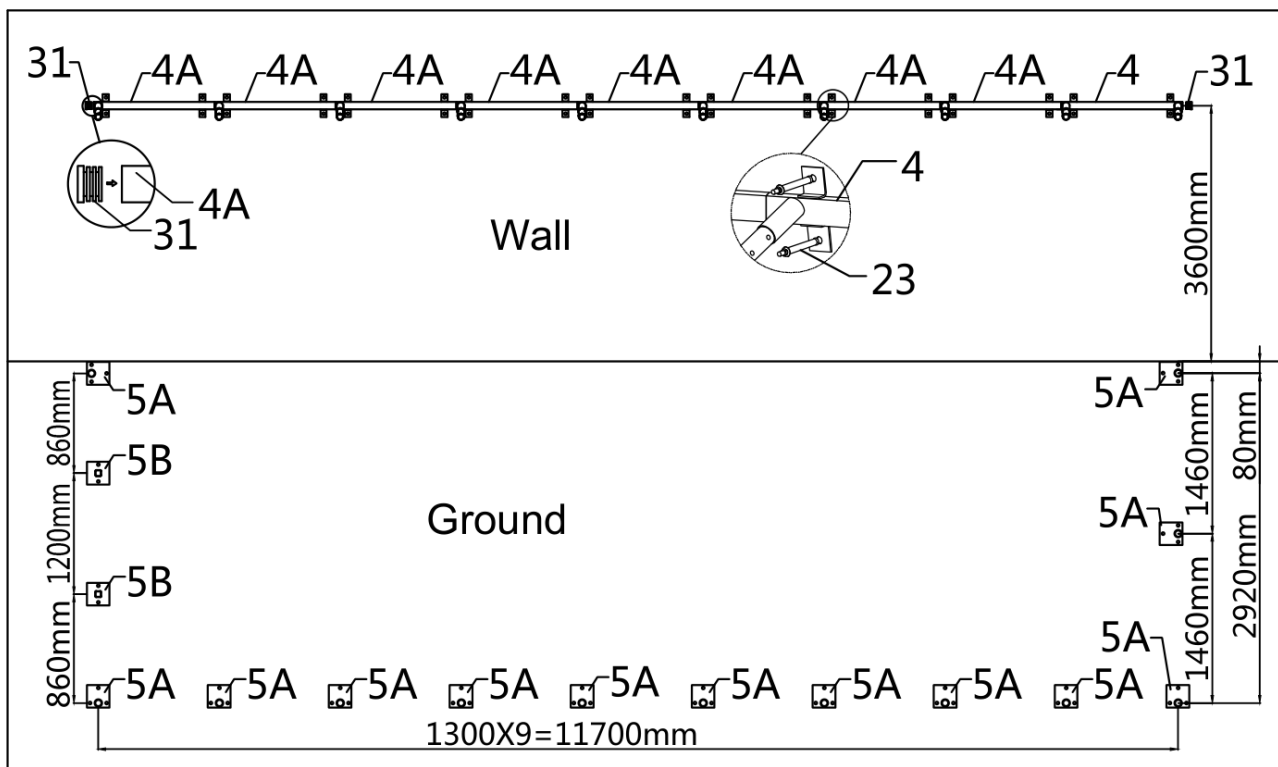

Figure 1
- Install the top wall mounted tube (#4,#4A) on the wall and install the base plate on the ground perpendicular to it (#5A,#5B) (refer to figure 1)
- (1) Top wall mounted tube (#4)
- (8) Top wall mounted tube (#4A)
- (13) Base plate (#5A)